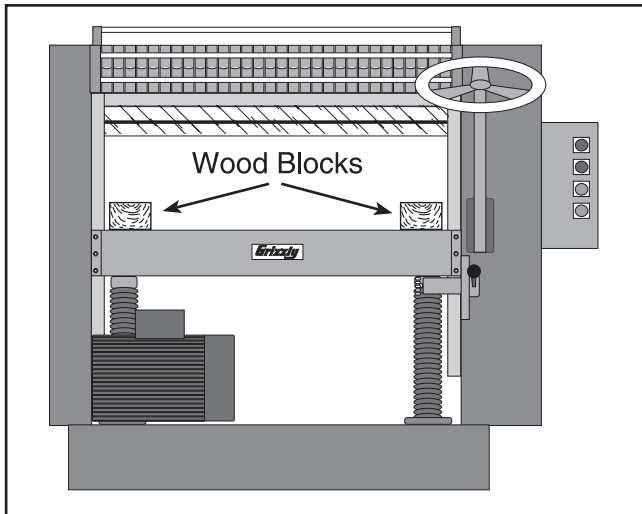

Figure 17. Board position on table.
4. Place the boards on each side of the table as shown in **Figure 17**, so each board spans from the front of the table to the back.